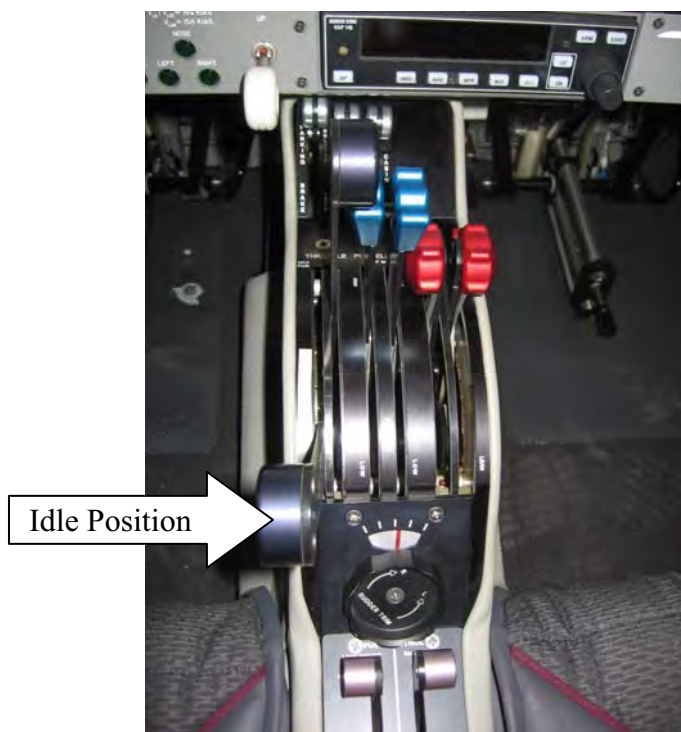

Figure 202 - LH Throttle Lever set to achieve Idle RPM
| 3.                                                                                                                                                                                                                                                                                                                          | Set the LH (RH) throttle lever to achieve a manifold pressure of 16 inHg or greater.                             | Refer to Figure 202.                            |